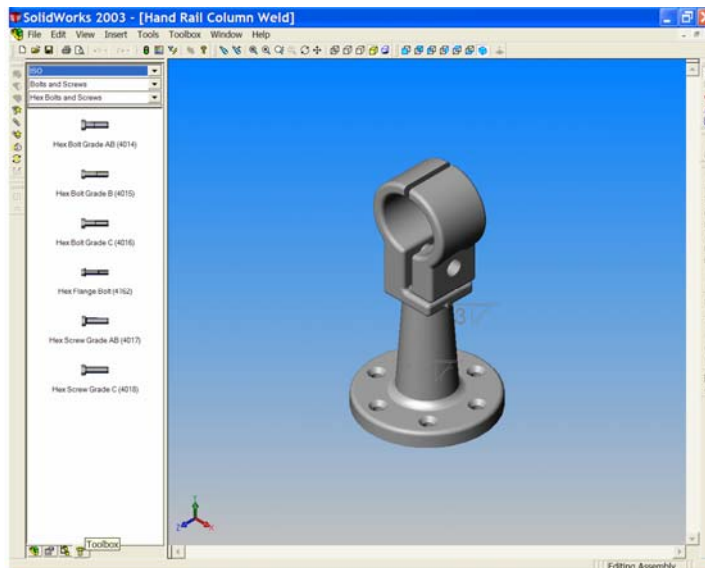

Figure 2
*The parts are now aligned so that a standard **Bolt, Nut and Lock Nut** may be added. We may gain access to the 'Toolbox Browser' by selecting the tab at the bottom of the 'Feature Manager Design tree'. See Figure 2.*